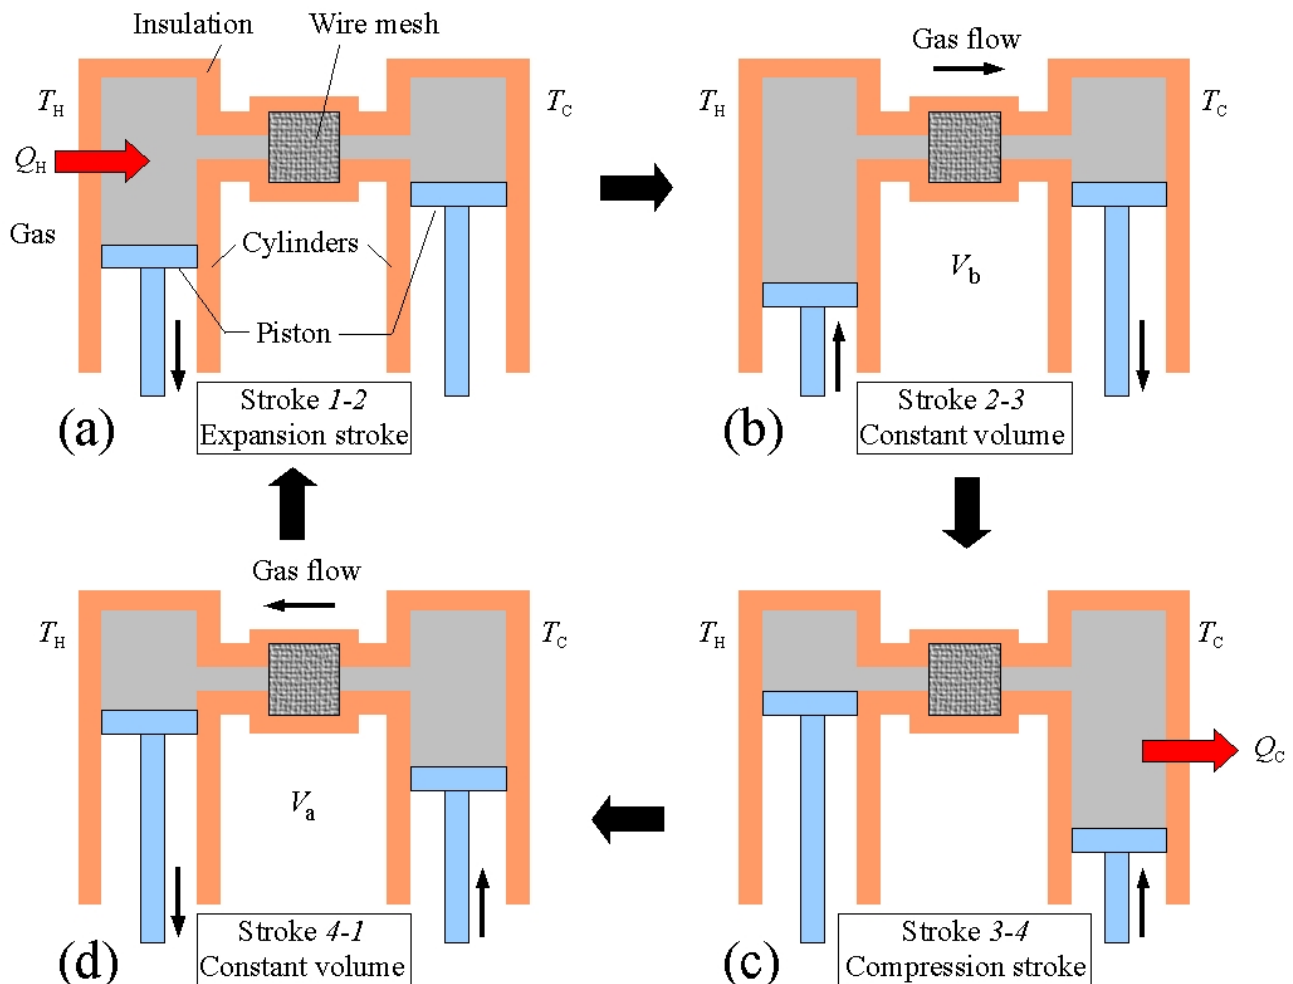
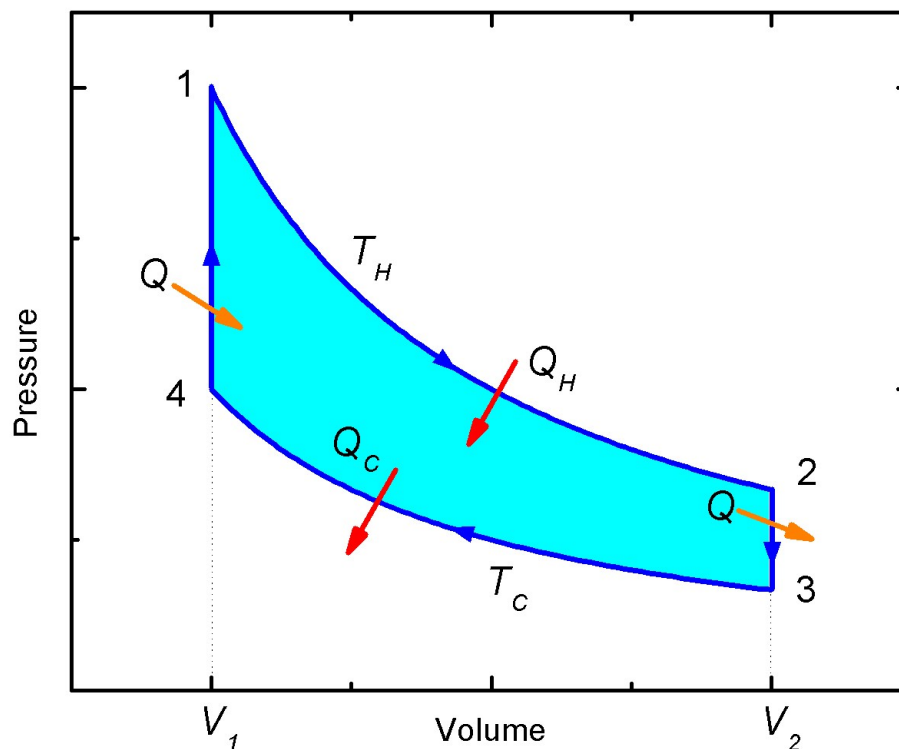
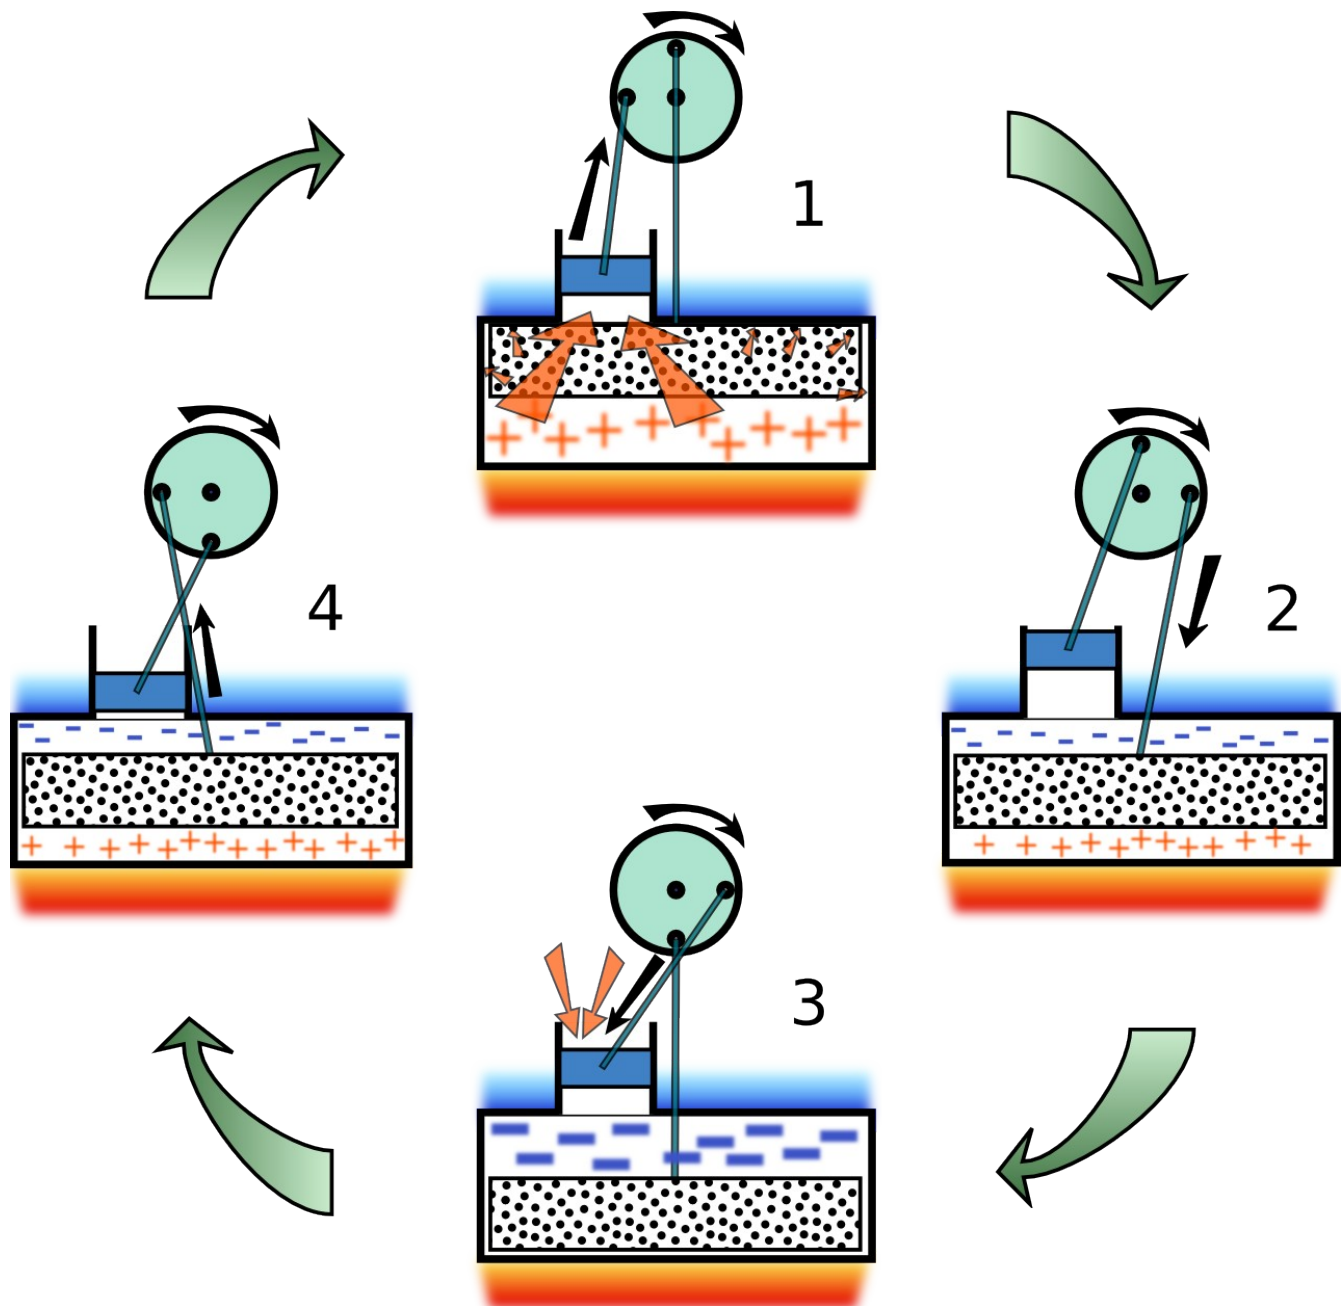

Figure 1: Dual piston Stirling engine at four different stages of the Stirling cycle.
Figure 2: Pressure versus volume ( $PV$ -diagram) of the Stirling cycle.
Figure 3: The different stages of operation for the common displacer-style of Stirling engine.
The Stirling engine operates by repeatedly completely a sequence of four steps. Each step in the sequency is reversible and together they form the *Stirling cycle*. To help understand each of the four steps in the Stirling cycle consider two gas filled cylindrical pistons whose chambers are connected by a narrow tube as pictured in Figure 1 [3].
The left piston is at temperature  $T_H$  and the right piston is at temperature  $T_C < T_H$ . In the centre of the tube that connects the two chambers is a wire mesh that will be used to temporarily store heat as described below. For each step in the Stirling cycle the schematic diagrams of Figure 1 will be mapped
to curves on a pressure-volume plot of the Stirling cycle shown in Figure 2. The four steps of the idealized Stirling cycle are [3]:
**(1→2)** The gas in the engine is expanded at the constant temperature  $T_H$ . The left piston moves down and the right piston is fixed. In order to maintain a constant temperature the gas must absorb heat  $Q_H$  from the reservoir (Isothermal expansion - Figure 1a, path 1→2 in Figure 2).
**(2→3)** At constant volume  $V_2$ , the temperature of the gas is reduced from  $T_H$  to  $T_C$ . The left piston is compressed and the right piston expanded so that the total volume remains fixed. The hot gas is forced from the left chamber to the right chamber. As the gas passes through the narrow tube it delivers heat  $Q$  to the wire mesh. (Constant volume heat removal – Figure 1b, path 2→3 in Figure 2)
**(3→4)** The gas is compressed at constant temperature  $T_C$ . The right piston is compressed and the left piston is fixed. To maintain a constant temperature the gas releases heat  $Q_C$  to the thermal reservoir at  $T_C$ . (Isothermal compression – Figure 1c, path 3→4 in Figure 2).
**(4→1)** At constant volume  $V_1$ , the temperature of the gas is increased from  $T_C$  to  $T_H$ . The left piston is expanded and the right piston compressed so that the total volume remains fixed. The cold gas is forced from the right chamber to the left chamber. As the gas passes through the narrow tube it recovers the heat  $Q$  stored in the hot wire mesh. (Constant volume heating – Figure 1d, path 4→1 in Figure 2) [3].
Figure 3 schematically shows the operation of a practical (and commercially available) Stirling engine at various stages of the Stirling cycle. In any real Stirling engine the idealized Stirling cycle cannot be achieved. The four steps are blurred together and the cycle on a  $PV$ -diagram appears elliptical. This displacer-style Stirling engine will be the type purchased, modified, and then demonstrated to the high school students. This type of engine has one small sealed piston, called the power piston, and one larger loose fitting *displacer* piston. The role of the displacer piston is simply to move, or displace, working gas in the engine back and forth between a heated lower region and the upper cooled region. In the design pictured in Figure 3, the lower plate is heated with a flame and the upper plate is cooled by water or the ambient surroundings. The two pistons are linked together such that their movements are  $90^\circ$  out of phase. That is, when the power piston is either at its maximum or minimum height and moving slowly, the displacer piston is at its halfway point and moving at its maximum speed. At position 1 of Figure 3, the displacer piston is in the upper cold region which forces the working gas to occupy the hot region and be at temperature  $T_H$ . Heat is added to the gas and it expands forcing the power piston to move upwards (path 1→2 in Figure 2). At position 2 the power piston is at its maximum height (the gas has its maximum volume  $V_2$ ) and is moving very slowly approximating the constant volume path 2→3 in Figure 2. The displacer, on the other hand, is moving into the hot region causing the gas to move to the cold region. In this design, the displacer itself plays the role of the wire mesh of Figure 1 by temporarily storing energy taken from the gas as it cools from  $T_H$  to  $T_C$ . At position 3, because all of the gas is in the cold region, it contracts (heat is removed from the gas) causing the power piston to slide down (path 3→4 in Figure 2). At position 4, the power piston is fully compressed (minimum volume  $V_1$ ) and is moving slowly. The displacer piston is moving upwards forcing the gas into the hot region. As the cool gas passes by the displacer it recovers the heat that was temporarily stored in the displacer (path 4→1 in Figure 2). At the completion of this process the state of the Stirling engine returns to 1 and the cycle repeats indefinitely [3].
Now PV-diagram of the Stirling engine shown in Figure 2 can be examined in more detail. The key points are that during expansion along path 1→2 there is no temperature difference so that the change in internal energy  $dU = 0$ . From the first law of thermodynamics heat added from the hot reservoir is the same as the work done by the system,  $Q_H = W_H$ . Similarly, during the compression along path 3→4 there is also no temperature gradient so that  $Q_C = W_C$ . Therefore, the efficiency of an ideal Stirling engine is given by  $\epsilon = 1 - W_C/W_H$ . As stated above, the work  $W_C$  and  $W_H$  are given by the area under the curves  $P = nRT_C/V$  and  $P = nRT_H/V$  of the isothermal processes. It is difficult to obtain the area without resorting to calculus, however a simple geometric argument can be used to show that if area under the curve  $y = 1/x$  is  $A$ , then the area under  $y = k/x$  is  $kA$ . For the PV-diagram of the ideal Stirling engine if there is a curve  $P = 1/V$  and the area under that curve is  $A$ , then the curve representing the isothermal expansion  $P = nRT/V$  will have an area of  $nRTA$ . Thus, the thermal efficiency of the ideal Stirling cycle will be:
A displacer-style Stirling engine, like in Figure 3, has been ordered. A hole, approximately 5 mm in diameter, will be made in the top (cold) plate of the engine. A plastic or metal tube with an outer diameter matched to that of the hole will be epoxied into the hole. This will need to be an air tight seal that can withstand moderate temperature gradients (Stycast 2850 or 1266 are both suitable choices). The open end of the tube will be coupled to a digital pressure gauge to monitor the pressure inside the Stirling engine. The pressure gauge will need to have a voltage output that is proportional to the measured pressure. That voltage will be acquired using Labview or Vernier. To construct a PV-diagram I will also need to monitor the volume inside the engine. Knowing the radius of the Stirling engine's power piston, I can calculate the change in volume by measuring the change in height of the power piston. I will need an instrument that can measure changes in height and again provide an output voltage that is proportional to measured height. The height and pressure will be recorded (and displayed) simultaneously and frequently updated by Labview. The program will also record time so that the period of one cycle of the engine is known. After acquiring the PV-diagram and the period the program will, in real time, calculate the work, power output, and efficiency of the engine used in the demonstration.